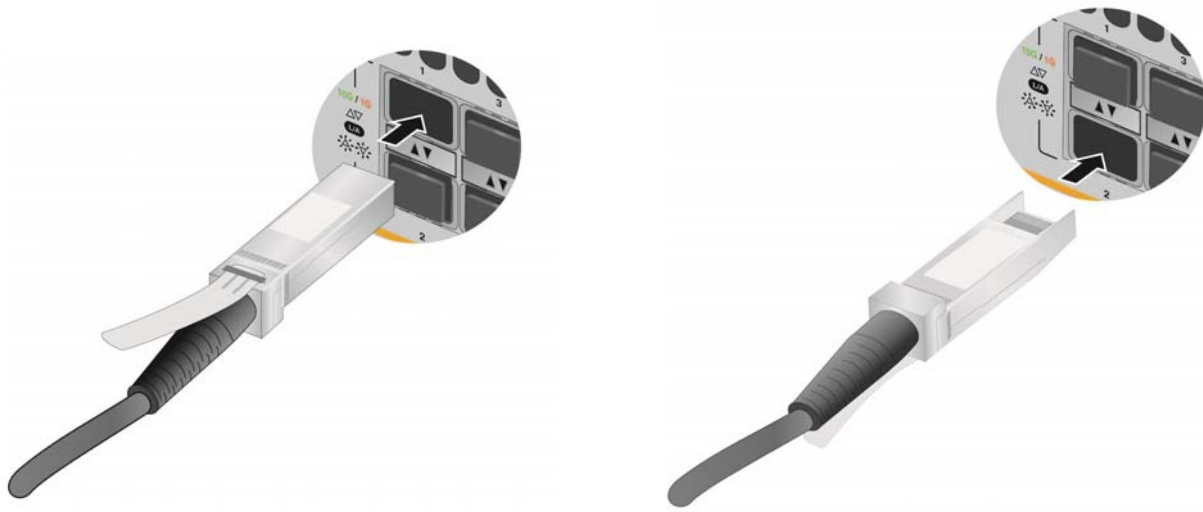

Figure 44. Installing AT-SP10TW Cables
3. To install the transceiver in a port in the top row, position the transceiver with the Allied Telesis label facing up. To install the transceiver in a port in the bottom row, position the transceiver with the label facing down. Refer to Figure 44.